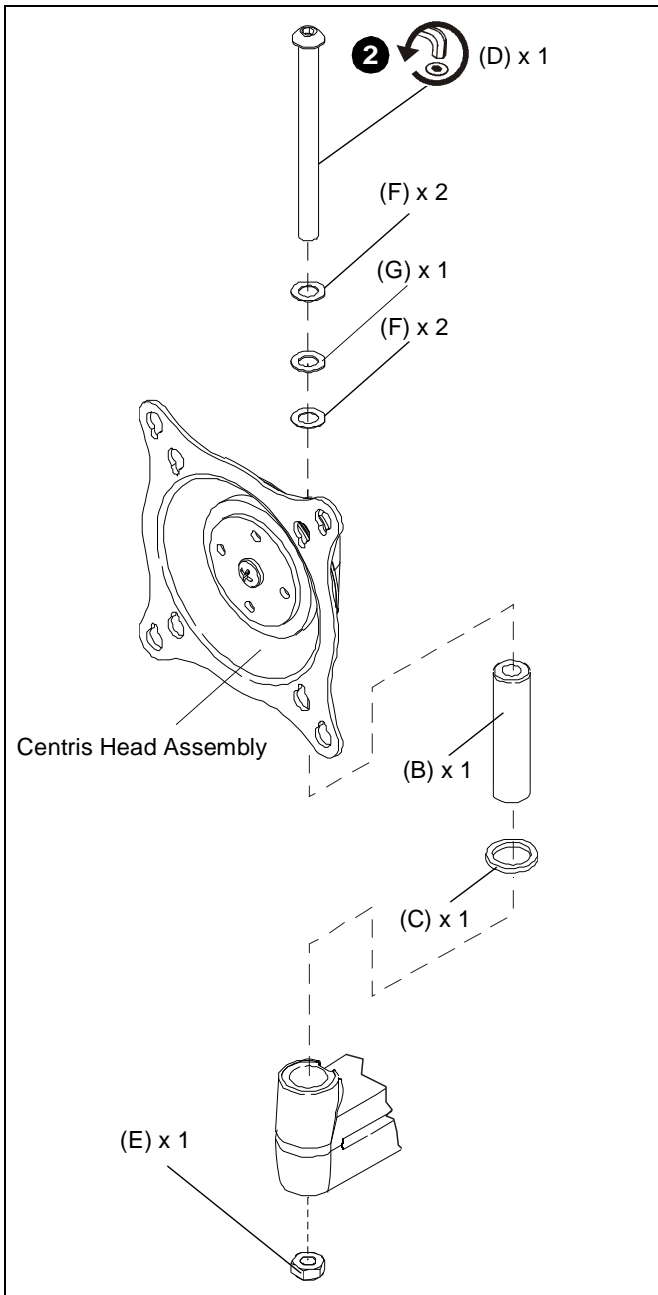

Figure 1
2. While holding nut in hole in bottom of the swing arm, remove screw (D), washers (F and G), Centris head assembly, and nut (E) using 3/16" hex key provided with existing mount. (See Figure 1)